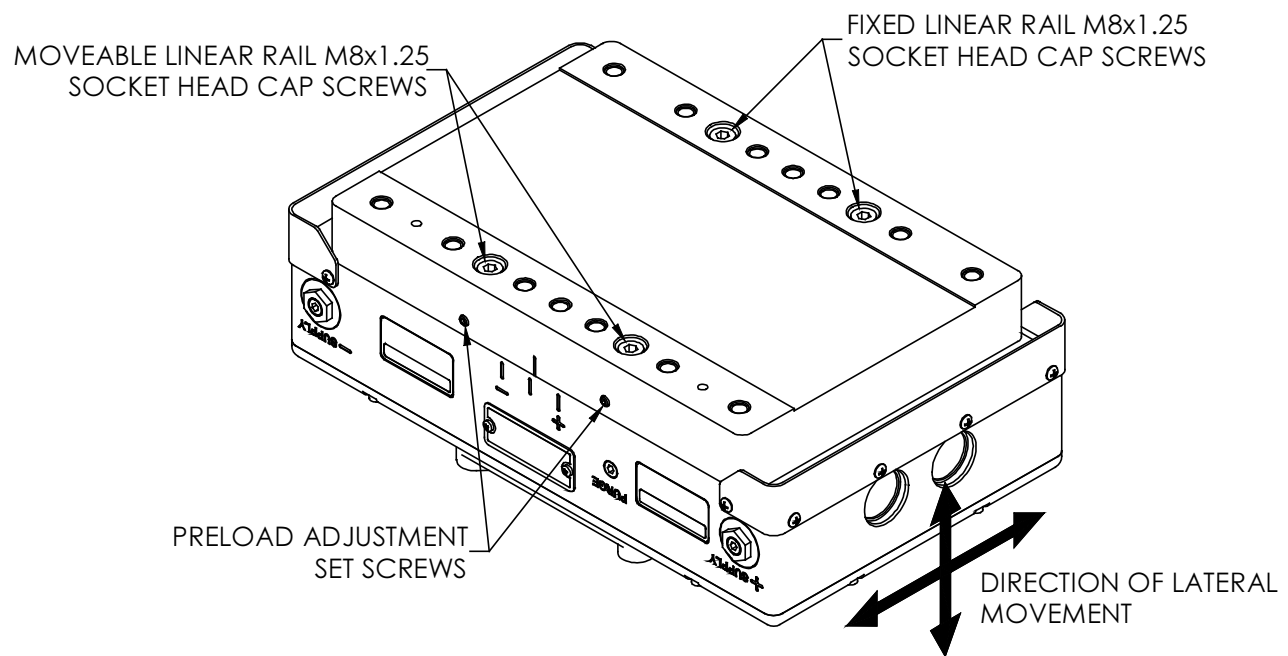

Figure 6. Carriage preload adjustment
To check for a loose Carriage, attempt to move the Carriage in a lateral direction as shown in Figure 6. If the Carriage moves or seems to exhibit any "slop", then the Linear Rail preload must be readjusted. A dial indicator is helpful, but not necessary to diagnose and correct a loose Carriage.
- F_{am} = Net AFD applied force (N)
- θ = Carriage angle relative to gravity (See Figure 6)
- F_{pm} = Force in positive direction = $(89 \times P_{sp})$ (N)
- F_{nm} = Force in negative direction = $(89 \times P_{sn})$ (N)